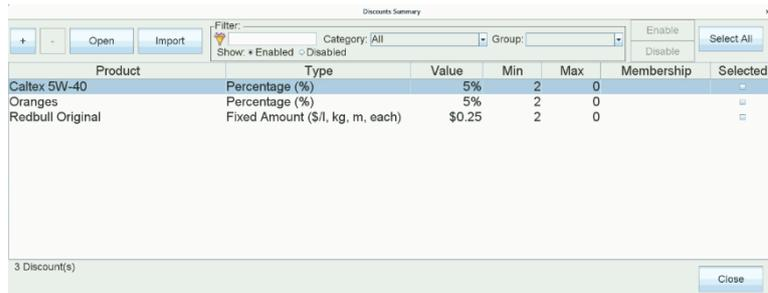

Figure 108: Discounts Summary
5. The **Discount Properties Dialog** window is displayed (Figure 108).
8. Provide a description for the discount you want to apply. This description will be displayed in both **Discounts Summary** (Figure 108) and in the sales ledger (if discounts apply to any of the products being purchased).